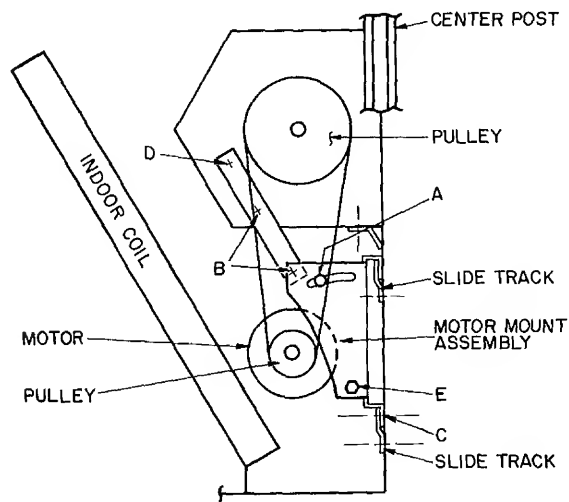

Fig. 23 — 50DP020 Indoor Fan Motor Section
2. Loosen adjusting nuts A and E, Fig. 23.